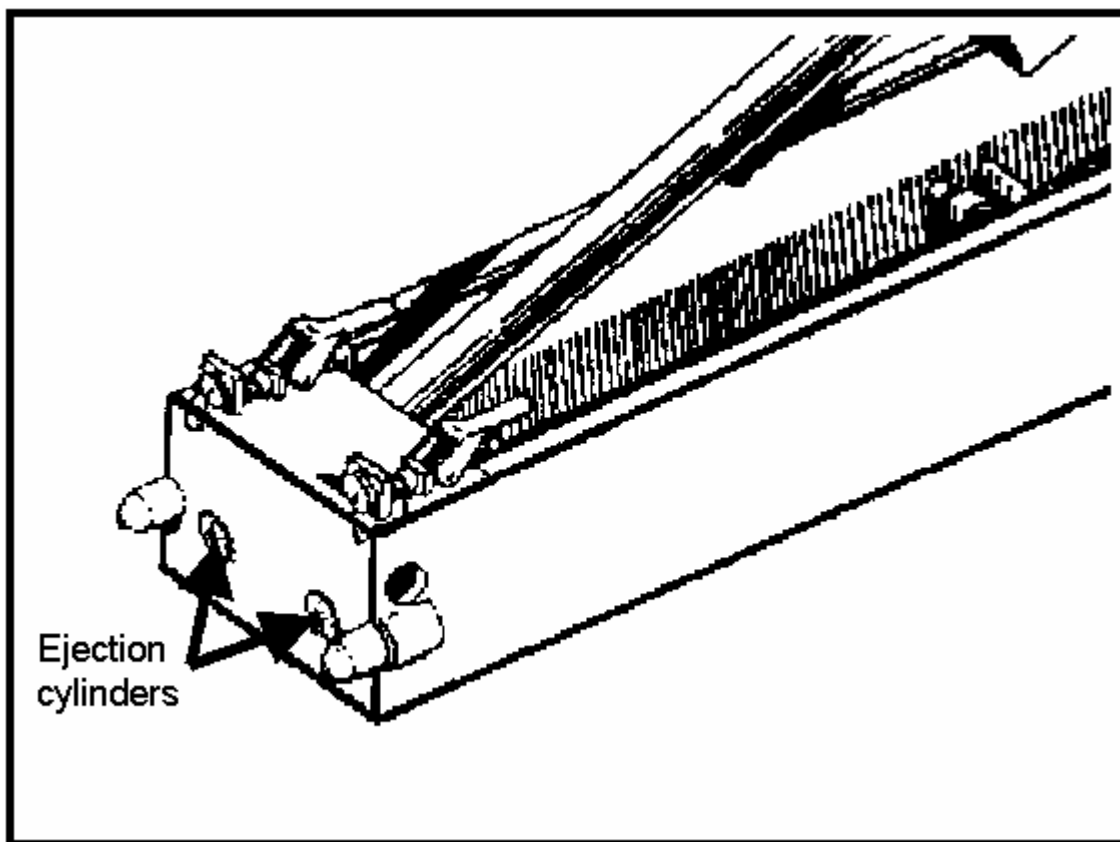

Figure 052-226-1049-9
- d. Release the locking- and the ejection-cylinder control levers when the ejection cylinders are retracted (Figure 052-226-1049-9).